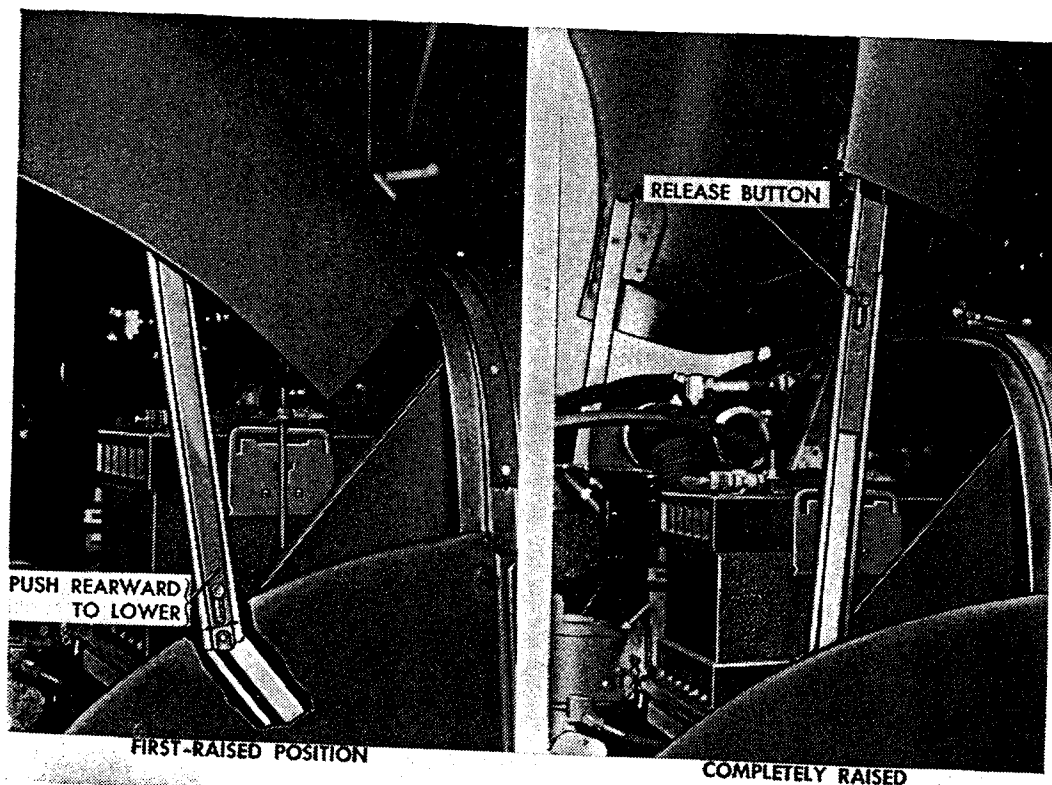
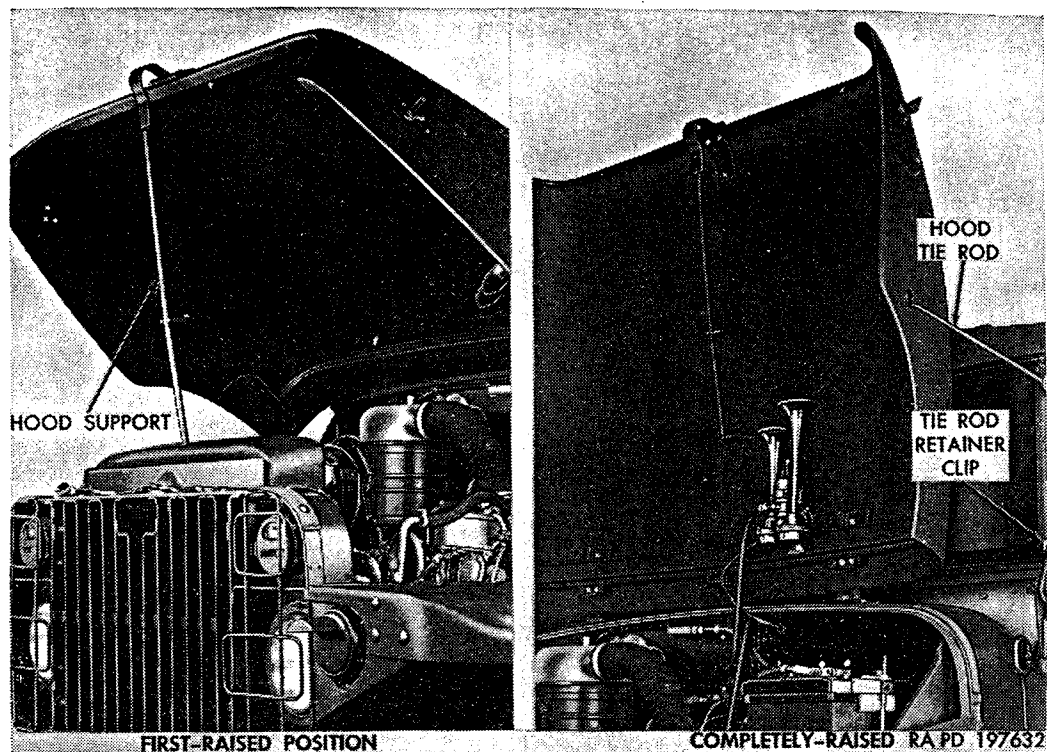
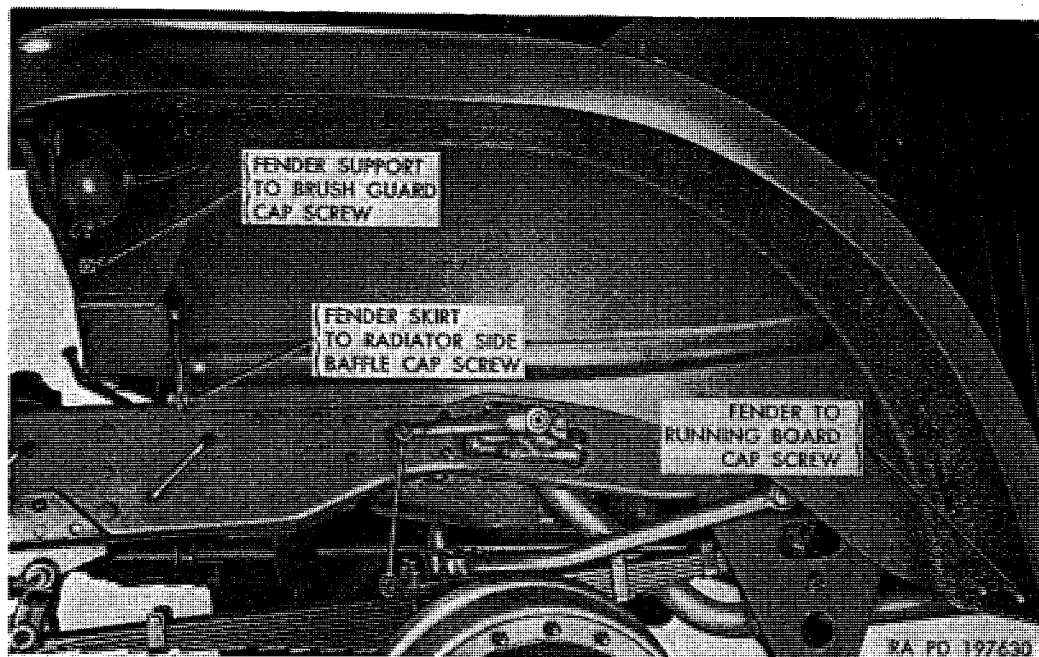

Figure 326. Positioning engine hood (early models).
Figure 327. Positioning engine hood (late models).
Figure 329. Fender installed (left side shown).
a. General. The rear-hinged-type hood is retained in closed position with a conventional hood catch on each side of hood. On late models, in addition to hood side catches, hood is retained in closed position with a hood support assembly located at front of hood (fig. 327). Catch on support assembly engages bottom bar of brush guard to retain hood in closed position.
b. Hood Positions. Hood can be raised to two positions; first-raised position, for inspection and light maintenance of engine accessories, and in completely-raised position for more extensive maintenance and inspection operations. Methods of supporting hood differ on early and late models. On early models, hood is supported by two telescopic side props, which support hood in both raised positions (fig. 326). On late models, hood is supported in first-raised position by a single support at front of hood, and retained in completely-raised position by a hood tie rod (fig. 327). When not in use, hood tie rod is secured in spring-loaded clip at windshield frame.
(a) *Early models.* Release the hood catch on each side of hood. Grasp nose of hood, then lift to first-raised position (fig. 326). Telescoping side props will automatically lock and hold hood in this position.
- (b) *Late models.* Release the hood catch on side of hood. Pull downward and forward on hood front support, disengaging catch on support from bottom bar of brush guard. Lift hood support and hood; then place bottom of support in hole at top of radiator support (fig. 327).
- (2) *Completely-raised position.*
- (a) *Early models.* Press release button (fig. 326) on each side prop; then raise hood to a vertical position.
- (b) *Late models.* From left side of windshield frame, pull forward on lower end of hood tie rod, disengaging rod from spring-loaded clip. Raise hood to vertical position; then engage ball-end of tie rod in hole and slot in side of hood panel (fig. 327).
- (3) *Lowering hood.*
- (a) *Early models* (fig. 326). To lower hood from completely raised position, press release button on each side prop; then lower hood to first-raised position. To lower hood from first-raised position, raise hood slightly; then slightly push lower prop on each side toward cab. Hood can then be lowered to closed position. Fasten hood side catches.
- (b) *Late models* (Fig. 327). Disengage hood tie rod from slot and hole in side of hood panel. Hood can be lowered to first-raised position by placing lower end of hood support in hole on radiator support. To lower hood to closed position, raise hood support from hole in radiator support;
(1) *Removal.* Disengage hood catches and raise hood to completely-raised position (fig. 326 or 327). Remove cap screws (F) which attach horn support bracket to hood panel reinforcement, permitting horns to be lowered. While supporting hood, remove two cap screws (B) and nuts which attach each telescopic hood prop (C) to hood support bracket on (early models only). Lower hood to closed position. Remove hinge cap screw (G) and nut (E) from each hood hinge (D), then remove hood panel (A).
(2) *Installation.* Position hood panel (A) on vehicle, with hinge holes alined. Install one $\frac{5}{16}$ -24 x $2\frac{1}{2}$ hinge cap screws (G) and $\frac{5}{16}$ -24 hinge cap screw nut (E) at each hood hinge (D). While supporting hood panel in upright position, connect each telescopic hood prop (C) to hood support bracket as used on early models, with two $\frac{1}{4}$ -28 x $\frac{5}{8}$ prop to hood cap screws (B). With hood in upright position, attach horn bracket (with horns) to hood panel reinforcement with two $\frac{5}{16}$ -24 x $\frac{3}{4}$ horn bracket to hood cap screws (F) and lockwashers. Lower hood and fasten.
b. Fender with Skirt Removal. Raise hood to completely-raised position (fig. 326 or 327). Disconnect blackout driving light connections at left fender (fig. 329). From under hood, loosen bolt attaching fender to cowl extension panel. Remove five cap screws and nuts, then lift fender and attached skirt from chassis. Remove 10 cap screws attaching fender skirt to fender and fender support.
c. Fender with Skirt Installation (fig. 329). Install fender skirt and fender brace to fender and fender support with ten $\frac{3}{8}$ -24 x $\frac{7}{8}$ cap screws, $\frac{3}{8}$ -24 nuts, and $\frac{3}{8}$ -inch plain washers. Position fender with skirt assembled to vehicle, engaging slot in fender brace bolt in bracket of cowl extension panel. Install all fender and skirt attaching cap screws and nuts loosely. Install two $\frac{1}{2}$ -20 x 1 cap screws, $\frac{1}{2}$ -inch lockwashers, and $\frac{17}{32}$ -inch plain washers attaching each fender support to brush guard and baffle. Install one $\frac{1}{2}$ -20 x 1 cap screw, $\frac{1}{2}$ -inch lockwasher, and $\frac{17}{32}$ -inch plain washer attaching each fender skirt to radiator side baffle, position spacer between fender and running board; then install two $\frac{5}{16}$ -24 x $1\frac{3}{8}$ cap screws, $1\frac{1}{32}$ -inch plain washers, and $\frac{5}{16}$ -24 nuts attaching each fender to running board. Tighten all attaching nuts and cap screws, including cap screw at cowl extension bracket. At fender, connect blackout driving light cables. Lower hood to closed position and engage hood catches.
- (1) Place hood in completely-raised position (fig. 326 or 327). Pull wiring plug out of front end connector at right side of radiator. At left side of radiator, disconnect front marker light by disconnecting two bayonet-type connectors.
- (2) Loosen nuts on cap screws (A), but do not remove. Remove cap screws (B and C), nuts, and washers.
- (3) Lift brush guard assembly upward and forward to disengage cap screws (A) from brackets (K) on support (D).